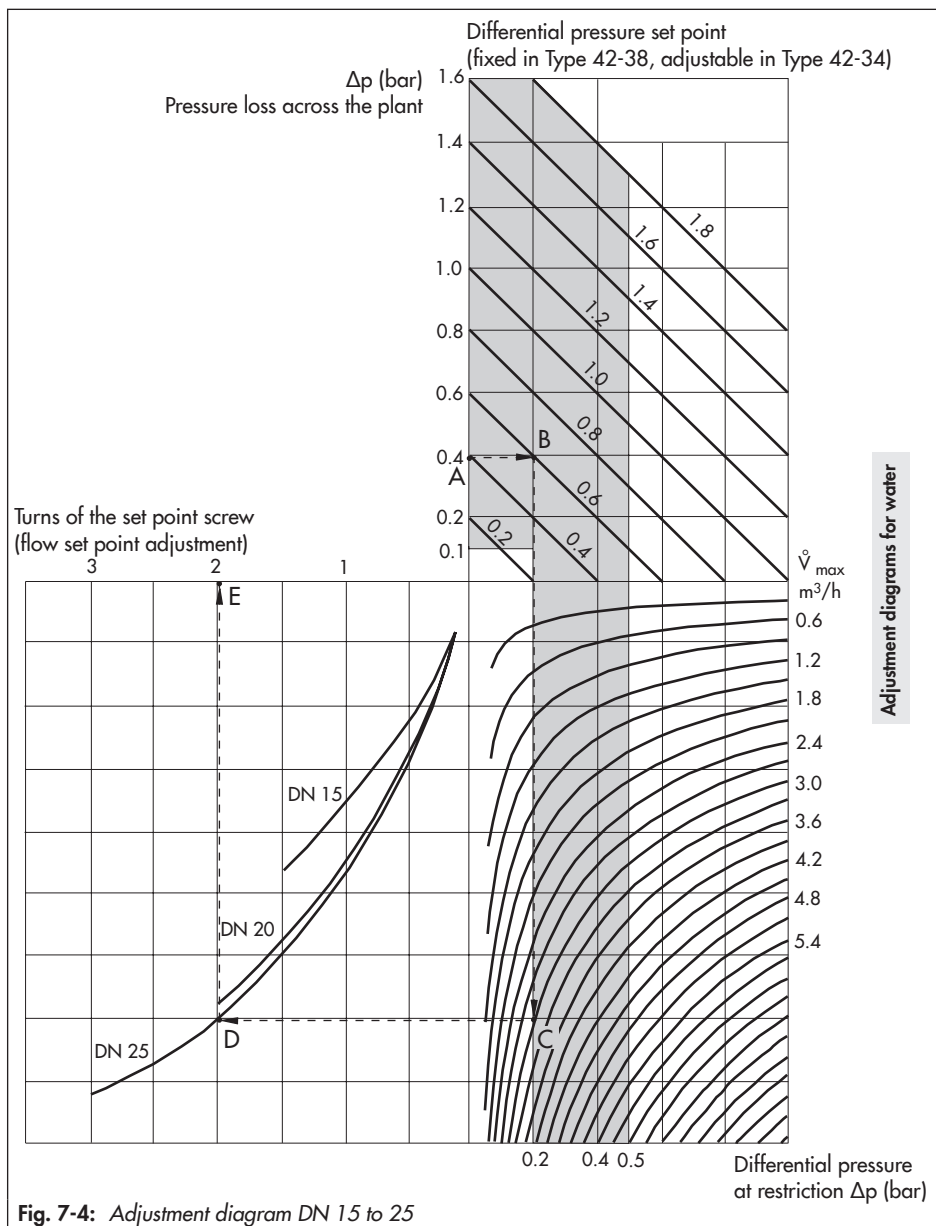
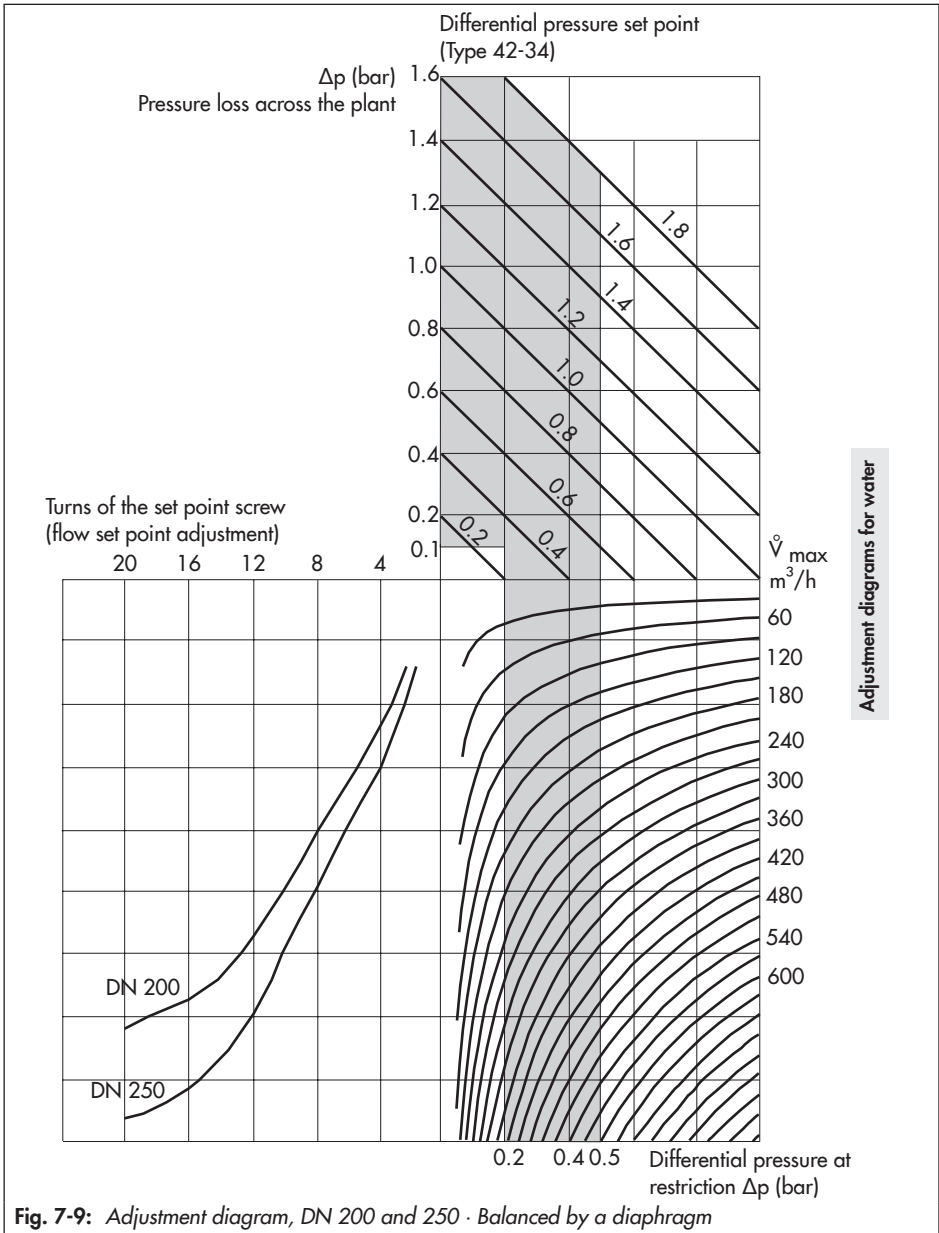

Fig. 7-4: Adjustment diagram DN 15 to 25
Fig. 7-9: Adjustment diagram, DN 200 and 250 · Balanced by a diaphragm
To adjust the flow rate limit when the pressure drop across the plant is known, use the adjustment diagrams for water (Fig. 7-4 to Fig. 7-9).
To adjust the flow rate limit when the pressure drop of the plant is known, use the adjustment diagrams for water (Fig. 7-4 to Fig. 7-9).
The curves of the flow ranges in the following diagrams (Fig. 7-9 to Fig. 7-4) apply to 0.1, 0.2 and 0.5 bar.
- Determine the adjustment values using the adjustment diagram Fig. 7-4 on page 7-7.
Sequence: points **A** to **E** in diagram (Fig. 7-4).
To adjust the differential pressure according to the adjustment diagrams (Fig. 7-4 to Fig. 7-9), it must be possible to also adjust the actuator set point required in addition to the calculated value.